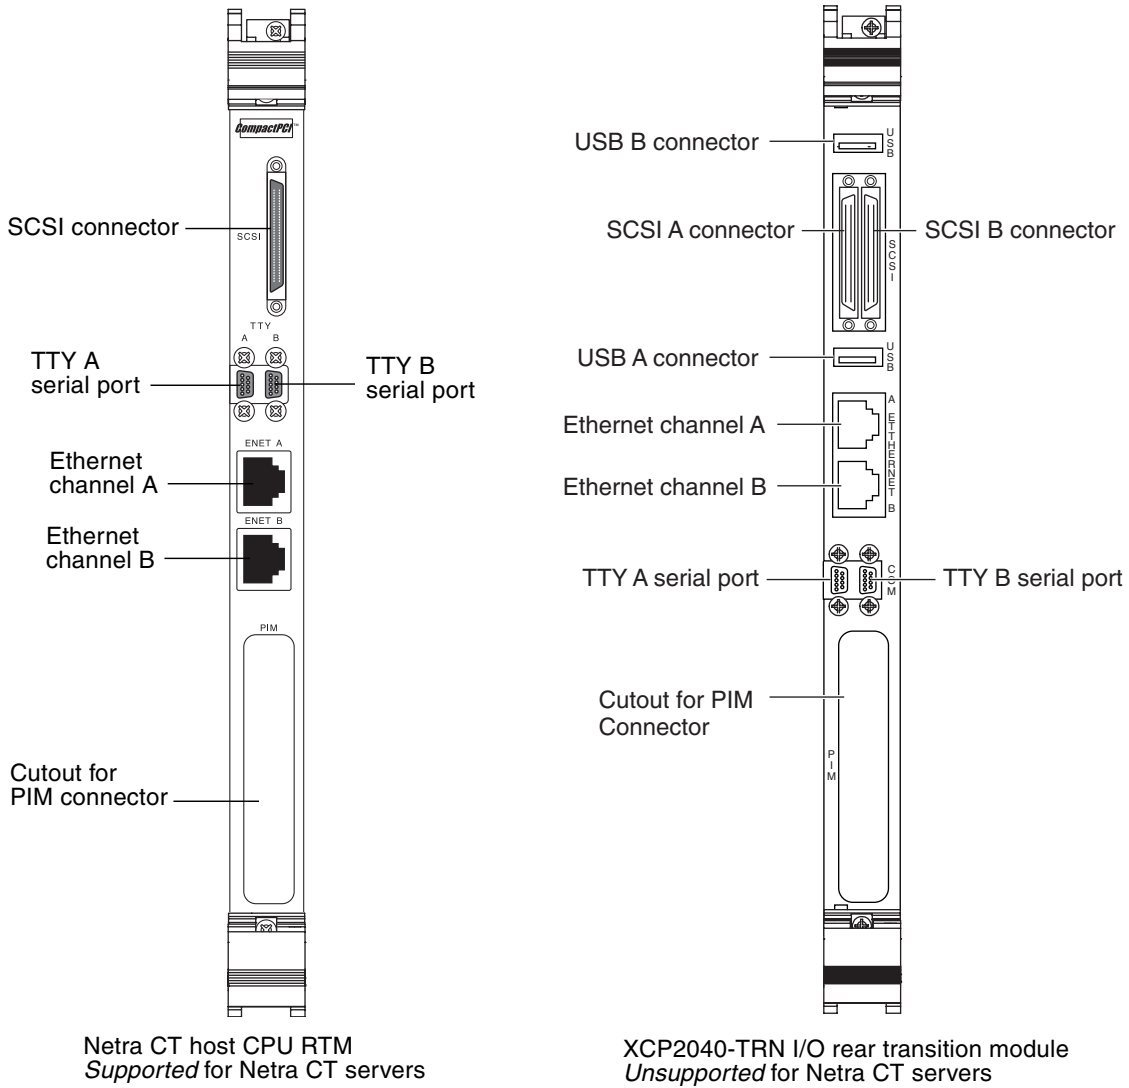

FIGURE 5-4 Supported and Unsupported Netra CP2140 Host CPU RTM for a Netra CT Server
- Netra CP2140 host board and Netra CT CPU transition card (CTC). With the Netra CP2140, use *only* the Netra CT CPU transition card (CTC, hereafter referred to as rear transition module) in the Netra CT server; do not use the XCP2040-TRN I/O transition module that is available with the Netra CP2140 board. See FIGURE 5-4 for supported and unsupported Netra CP2140 host RTMs.